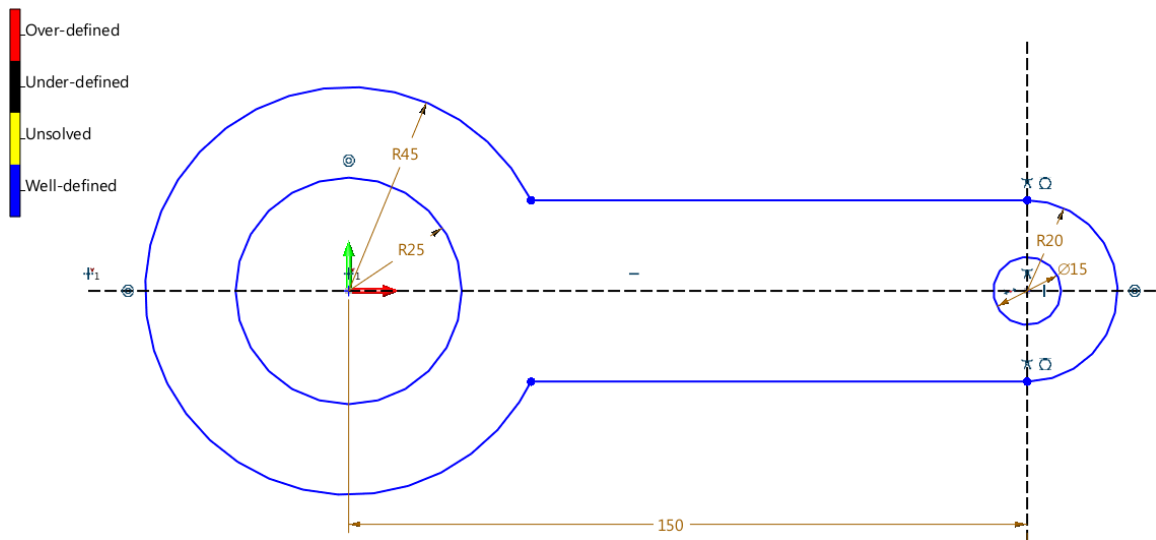

Figure 102 Add Two Horizontal Lines
**STEP 06** Draw two horizontal lines tanged with the circle of radicus=20mm. Then trim the sketch. The recommend features is “One Touch Trim”. See the Figure 102.